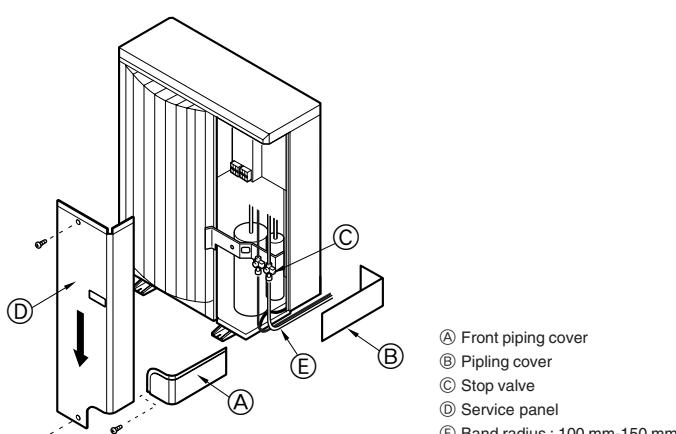
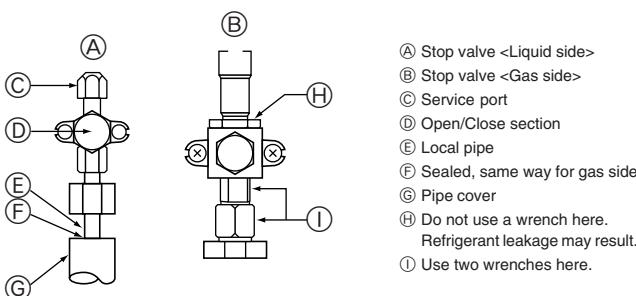

Fig. 4-2
Fig. 4-3
4.3. Refrigerant piping (Fig. 4-2), (Fig. 4-3)
- Remove the service panel (D) (three screws) and the front piping cover (A) (one screw) and rear piping cover (B) (two screws).
- ① Perform refrigerant piping connections for the indoor/outdoor unit when the outdoor unit's stop valve is completely closed.
- ② Vacuum-purge air from the indoor unit and the connection piping.
- ③ After connecting the refrigerant pipes, check the connected pipes and the indoor unit for gas leaks. (Refer to 4.4 Refrigerant pipe airtight testing method)
- ④ Vacuumize the refrigerant lines through the service port of the liquid stop valve and then open the stop valves completely (for both the liquid and gas stop valves). This will completely connect the refrigerant lines of the indoor and outdoor units.